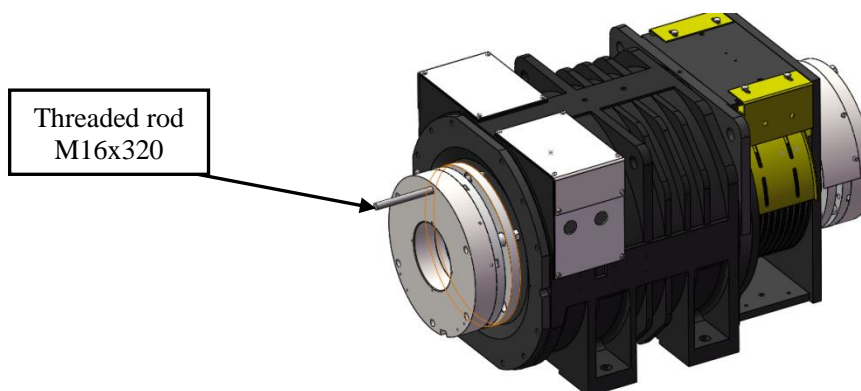

Figure 48: Install Threaded rod (TMGL2/TMGL2A)
8. Then install the threaded rod M16x320 into the hole. See Figure 48.